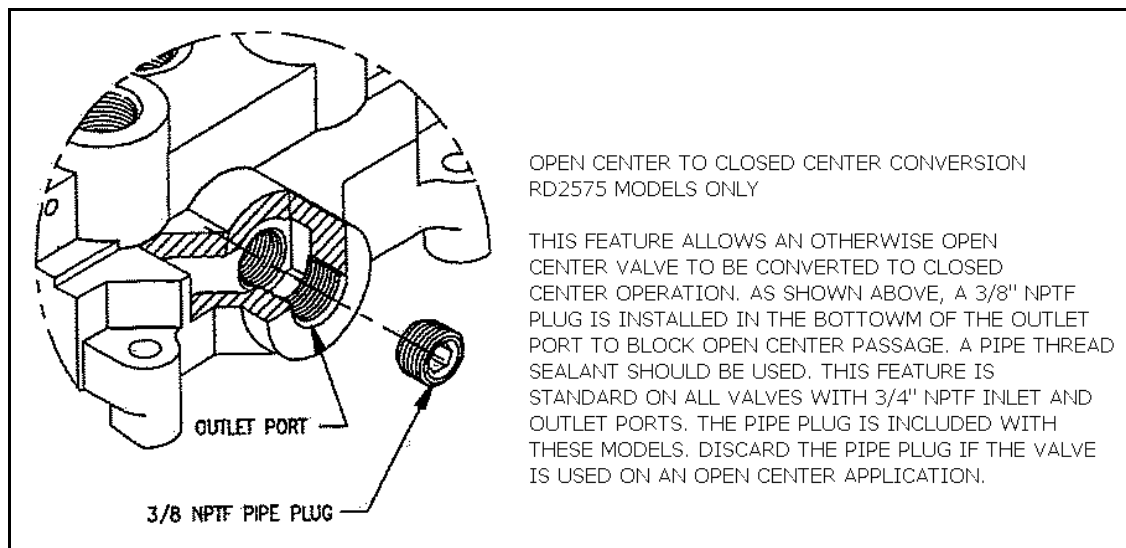

Figure 2.5
- ➔ For an **open system**, DO NOT install plug (Figure 2.5).